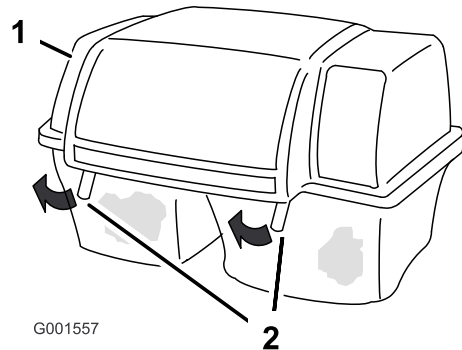

Figure 16
2. Pull up on both bag retainer handles until they unlock from the bag frame (Figure 16). Open (raise) the bagger top.